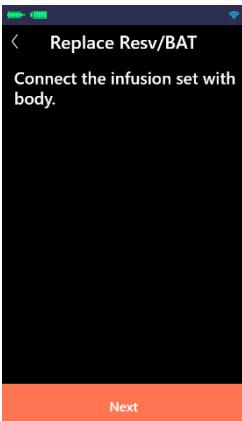

Figure 4.22
**(4)** Connect the infusion set with the body (as shown in Figure 4.22). When it is completed, click "Next".